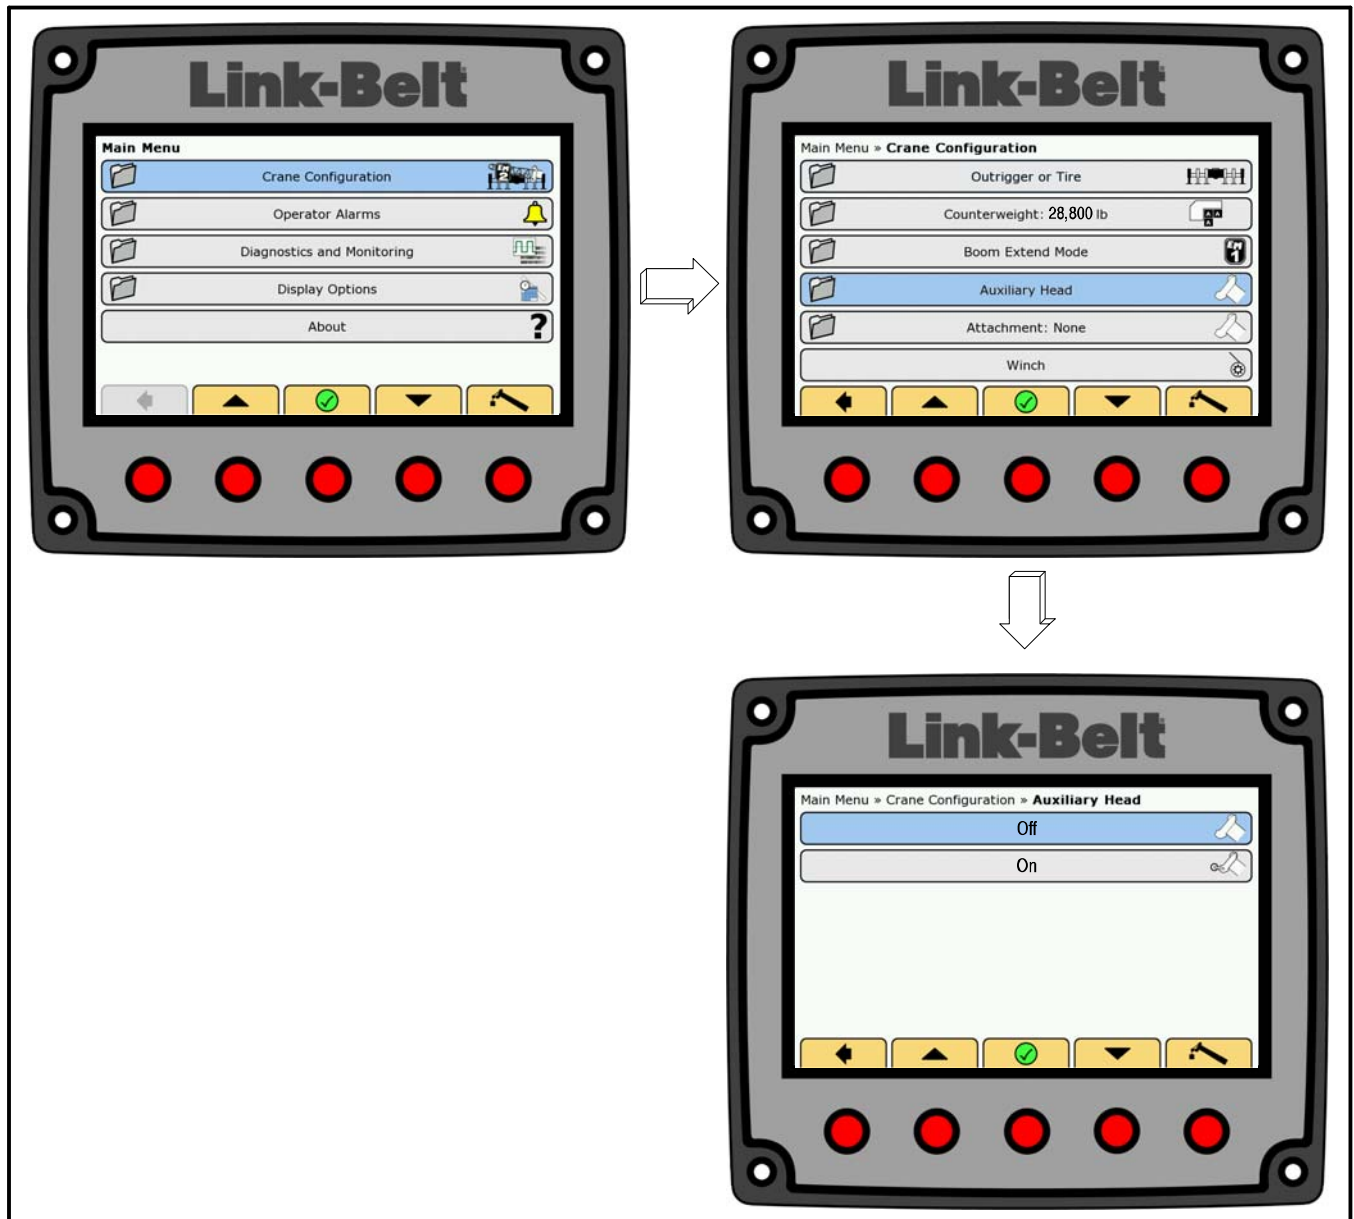

Figure 1–91
12. On the Crane Configuration menu, scroll to Auxiliary Head, and press the OK/Enter button . Refer to Figure 1–91.